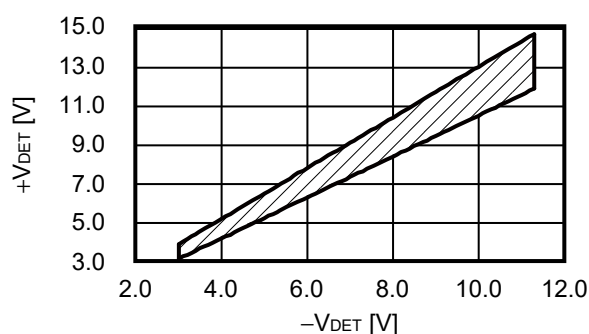

Figure 3 Release Voltage Possible Setting Area
- 3.** The release voltage ($+V_{DET}$) can be set in a range which satisfies the following conditions. Release voltage possible setting range is shown in **Figure 3**.